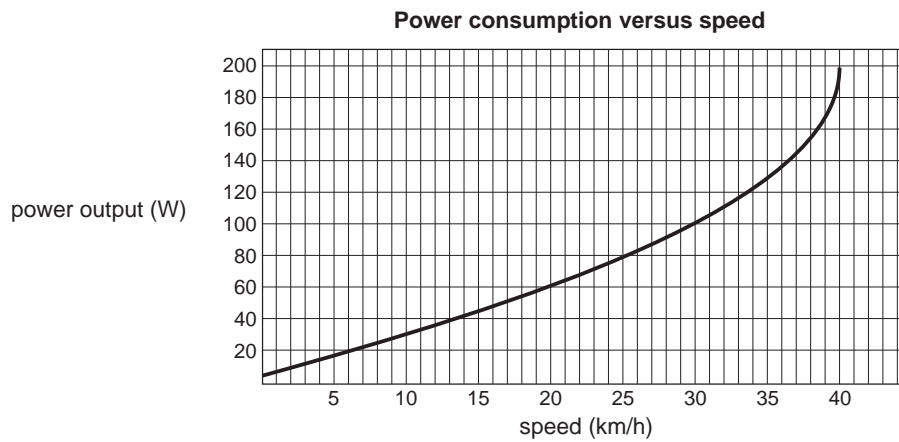

Figure 4
A graph of power consumption versus speed is given in Figure 4 below.
- a. Use the information from Figure 4 above to calculate the range of the tricycle if it is to cruise at 25 kmh^{-1} . Assume that a 10 Ah battery is used. 2 marks